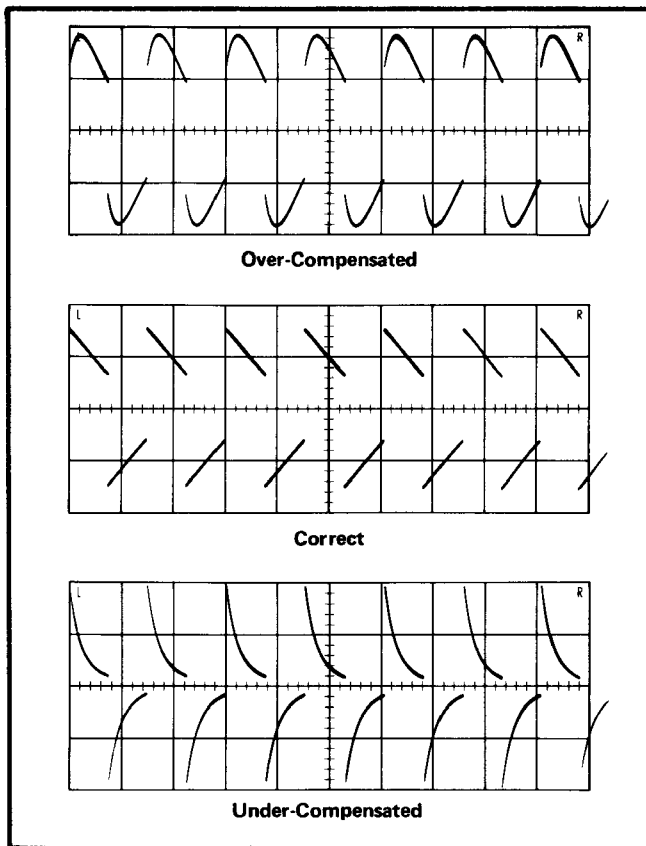

Fig. 5-3. Adjustment of LF COMP.
- h. ADJUST—LF COMP (R154) for a straight but tilted top on the displayed square wave (see Fig. 5-3).
- h. ADJUST—LF COMP (R154) for a straight but tilted top on the displayed square wave (similar to Fig. 5-3).